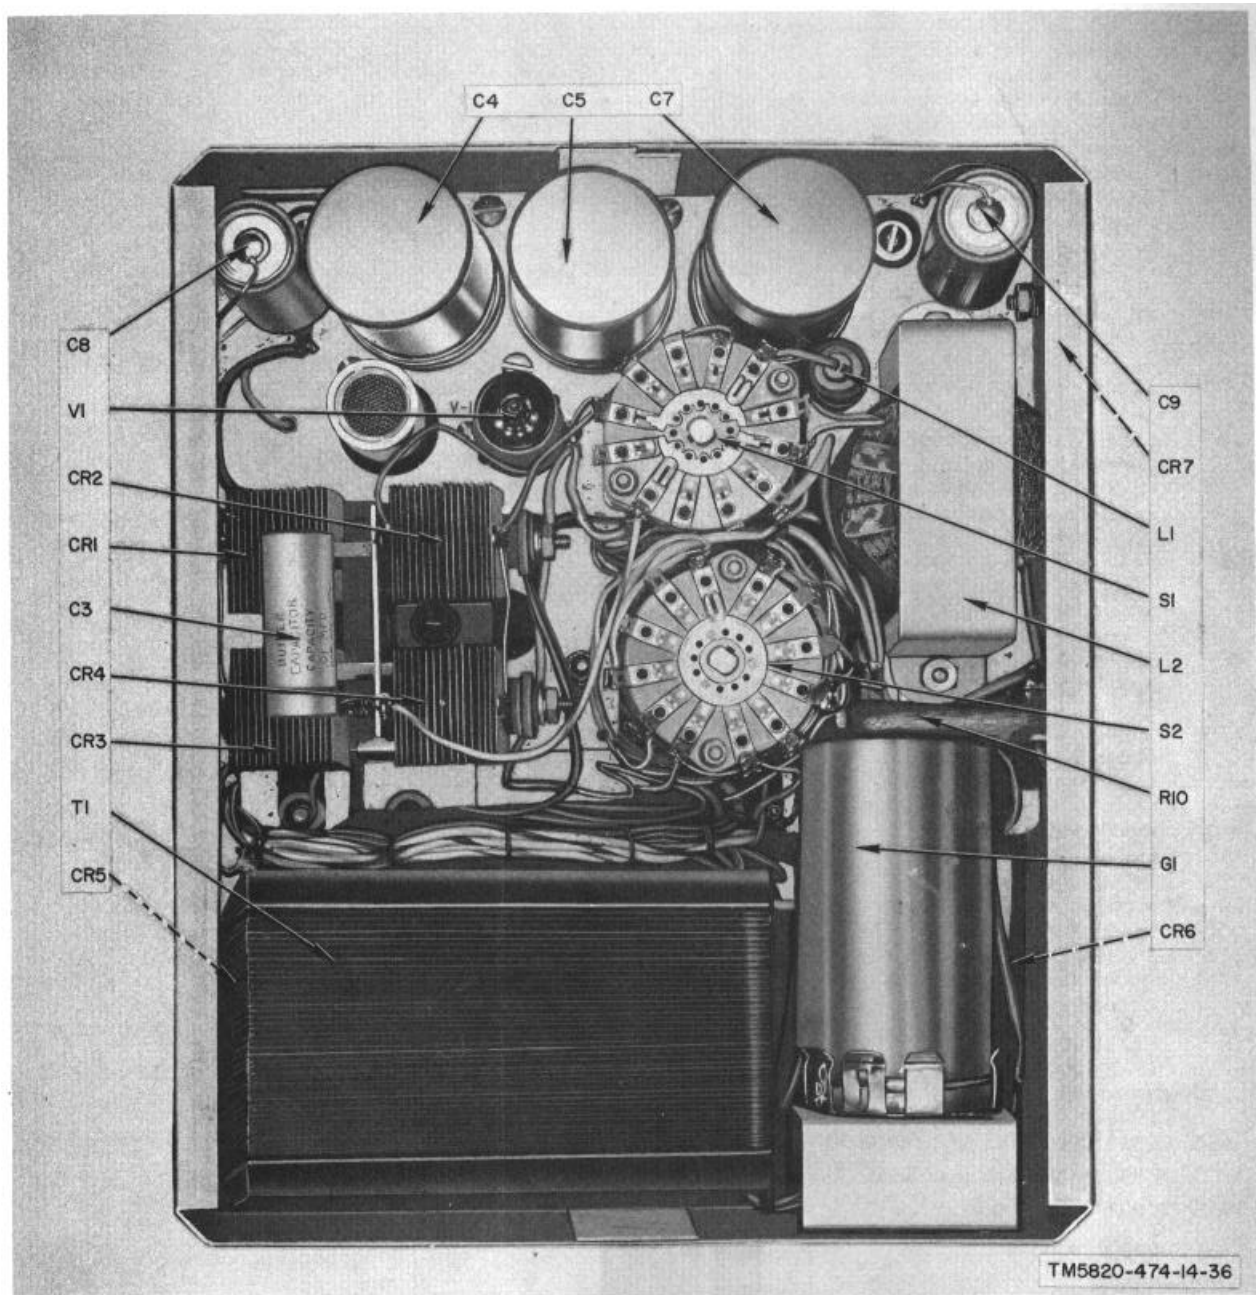
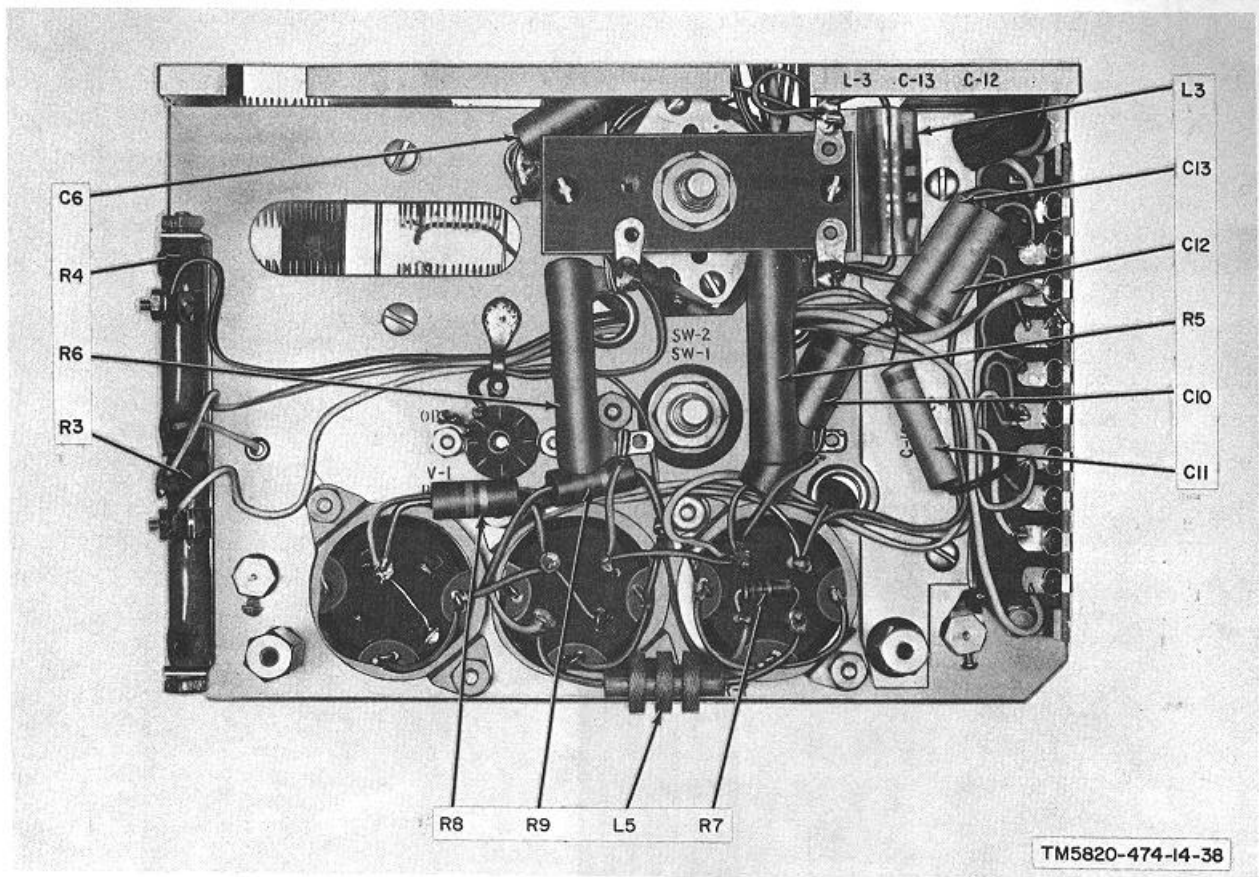
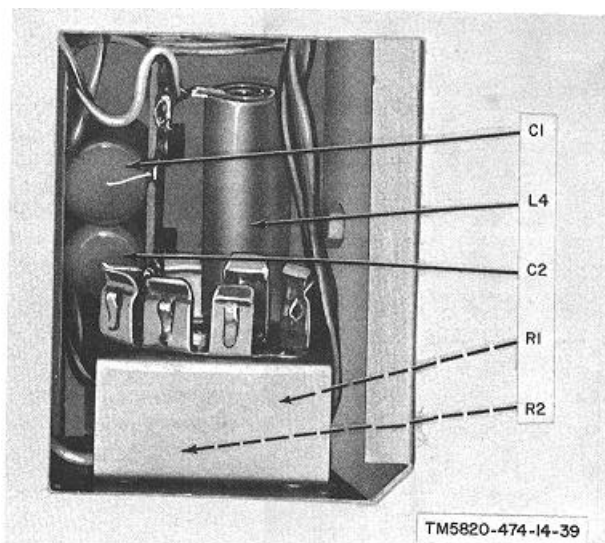

Figure 36. Large power supply, rear view.
Figure 38. Large power supply, underside of chassis.
Figure 39. Large power supply, area behind vibrator.
| Between pins 1 and 3 of RCVR PWR. jack. | Approximately 300K | If resistance is zero, check C7B (fig. 36) for short, or for short-circuited B, wiring. If resistance is low, check C7B for leakage; check C7A, C6 (fig. 38), and C10 for shorts and/or leakage. |
| Between pins 1 and 4 of RCVR PWR. jack. | Approximately 90 ohms.... | If resistance is zero, check C8 and C9 for short, or for short-circuited filament wiring. If resistance is low, check C8 and C9 (fig. 36) for leakage. |
| Between pins 1 and 3 of TRANS PWR. jack. | Approximately 110K | If resistance is low, check C4A, C4B, C5A, and C5B for short, or for short-circuited B wiring. If resistance is low, check C4A, C4B, C5A, and C5B (fig. 36) for leakage. |
a. *General.* Procedures are outlined in the chart in d below for localizing troubles to the rectifier, filter, regulator, and vibrator circuits of the large power supply. Part locations are shown in figures 36 through 39. One or more of the localizing procedures may be necessary, depending on the nature of the operational symptoms. When the trouble has been localized to a particular circuit, make voltage and resistance measurements to isolate the trouble to a particular part.
| 2 | No output voltage for receiver or transmitter during operation from ac lines. Ac voltmeter reading normal. | Defective power transformer Defective power selector switch. | Check the two ac primary windings of T1 (fig. 40). Check S2E, S2F, and S2G (fig. 36). |
| 4 | No B+ voltages for transmitter or receiver during operation from ac lines. Filament voltages normal. | Defective power transformer Defective bridge rectifier Shorted buffer capacitor | Check high voltage secondary winding of T1. Check CR1, C2., CR3, and CR4 (fig. 36) by substitution. Check C3 (fig. 36) for short. |
| 5 | No B+ voltage for transmitter or receiver during operation from storage battery. Filament voltages normal. | Defective vibrator G1 Shorted hash filter capacitors Shorted buffer capacitor Defective power transformer | Check vibrator (fig. 36) by substitution. Check C1, C2 (fig. 39), and C6 (fig. 38) Check C3 (fig. 36). Check vibrator winding on primary |
| 6 | No B+ voltage for transmitter or receiver when operated from hand-cranked generator. Filament voltages normal. | Defective switches Shorted hash filter | of T1 (fig. 36). Check C6 (fig. 38). |
| 7 | No transmitter B+ during operation from ac lines or storage battery. All other voltages normal. | Open rf choke Defective rectifier | Check L1 (fig. 36). Check CR2 and CR4 (fig. 36) by substitution. |
| 8 | No transmitter B+ during operation from hand-cranked generator. All other voltages normal. | Open rf chokes Defective CHARGE-OPERATE switch. | Check L1 (fig. 36) and L3 (fig. 38). Check S1B (fig. 36). |
| 9 | No receiver B+, during operation from ac lines or storage battery. All other voltages normal. | Open receiver B+ filter circuit. | Check L3, L5, R5, R6, and R7 (fig. 38). |
| 11 | No transmitter filament voltage during operation from ac lines. All other voltages normal. | Defective power transformer Defective power selector switch. | Check 6.3-volt secondary winding of T1 (fig. 36). Check S1D. |
| 12 | No transmitter filament voltage during operation from storage battery or hand-cranked generator. All other voltages normal. | Defective power selector switch. | Check S1D (fig. 36). |
| 13 | No receiver filament voltage during operation from ac line. All other voltages normal. | Defective receiver filament winding. Defective filament rectifiers | Check winding on T2 (fig. 36). Check CR5 and CR6 (fig. 36) by substitution. |
| 14 | No receiver filament voltage during operation from storage battery or hand-cranked generator. All other voltages normal. | Open voltage-dropping resistors. Open filter choke Defective switches Open voltage-dropping resistor Open filter choke Defective power selector switch. | Check R3 and R4 (fig. 38). Check L2 (fig. 36). Check S1A and S2C. Check R4 (fig. 38). Check L2 (fig. 36). Check S2C. |
| 15 | No 6-volt output for battery charging; all other modes of operation normal. | Blown fuse Defective CHARGE-OPERATE switch. Open current-limiting resistor | Check F1. Check S1 (fig. 36). Check R10. |
| 17 | Receiver filament voltage abnormally high. All other voltages normal. | Defective voltage-regulator diode. | Check CR7 (fig. 36) by substitution. |
| 18 | Excessive ripple on transmitter B+ voltage. | Defective transmitter B+ filter circuit. | Check C4A, C4B, C5A, and C5B (fig. 36). |
| 19 | Excessive ripple on receiver B+ voltage. | Defective receiver B+ filter circuit. | Check C7A and C7B (fig. 36) |
| 20 | Excessive hum on receiver filament voltage. | Defective receiver filter circuit. | Check C8 and C9 (fig. 36). |
| 21 | All voltages low during operation from storage battery. Excessive battery drain. | Defective vibrator Open buffer capacitor | Check vibrator G1 (fig. 36) by substitution. Check C3. |
| T1 (fig. 36) | Blk and blu-wht | Less than 1 |
| L1 (fig. 36) L2 (fig. 36) L3 (fig. 38) L4 (fig. 39) L5 (fig. 38) | Blu and blu-wht | 1.4 |
- (1) Replace CR7.
- (2) Connect a 4.5-ohm, 1-watt resistor across pins 1 and 4 of RCVR PWR. plug P5.
- (3) Operate the power supply from a fully charged 6-volt battery.
- (4) Set the multimeter for dc volts and connect it across the 4.5-ohm resistor (positive probe to pin 4).
- (5) Locate resistors R3 and R4 (fig. 38).
- (6) Adjust the slider on R4 until the multimeter indicates 1.3 volts.
- (7) Disconnect the 6-volt battery.